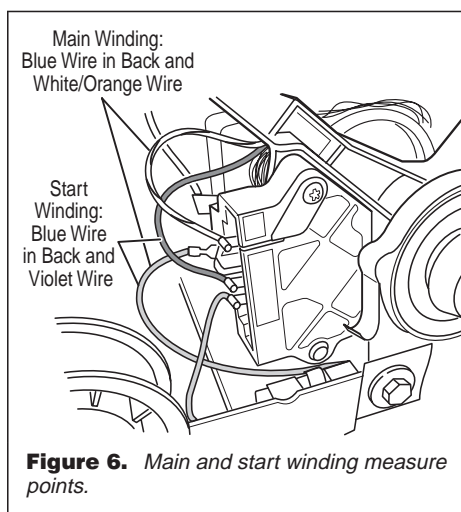

Figure 6. Main and start winding measure points.
7. Using figure 6, check for the resistance values of the motor's Main and Start winding coils as shown below.